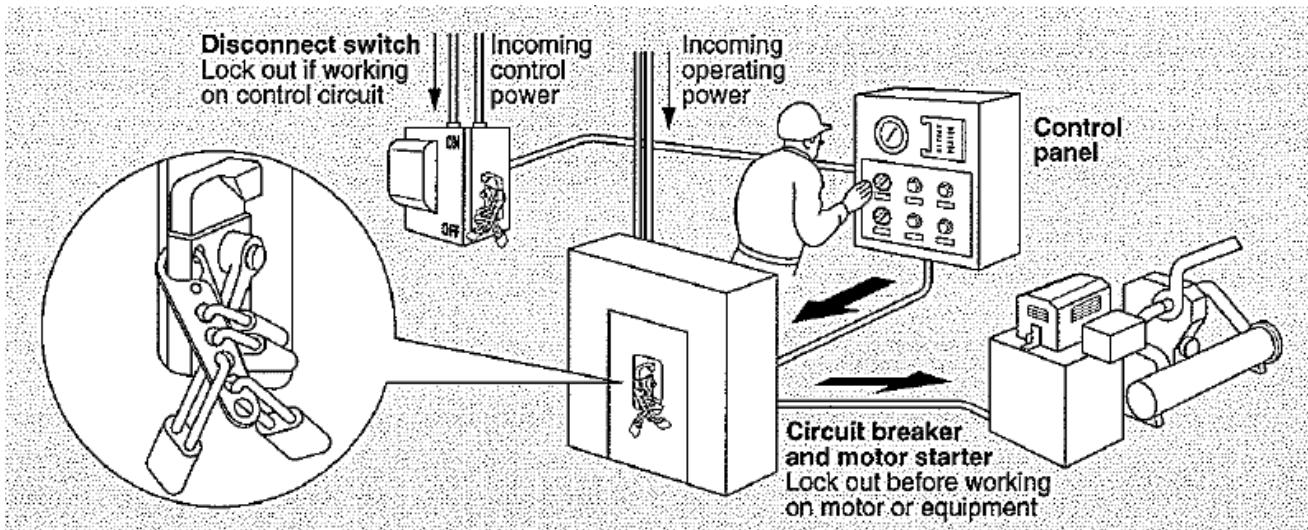

Figure 1.6: Lock Out Every Power Source
- 1-37 **Lockout:** If the unexpected start-up of equipment is likely to endanger people, you must lock out power to the equipment. When equipment is to be worked on, each worker involved should have his or her own padlock to lock out power. If you will be working on a motor control center, for example, use a lockout device like the one in Figure 1.5. You must have a lock for every power source supplying the electrical equipment. Figure 1.6 on the following pages shows two possible lockout locations. Lockout/tagout procedures are covered in greater detail in Lesson Three.